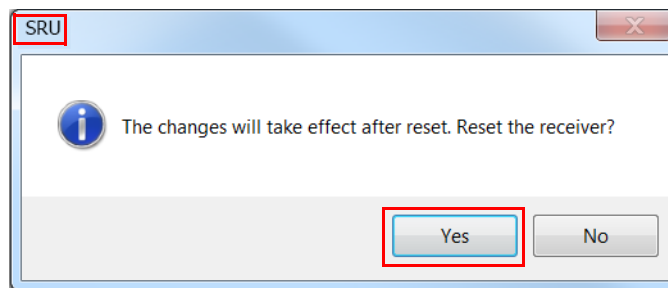

Figure 5-9: Reset Receiver
- Click **Yes** at the prompt to reset the receiver (Figure 5-9). The **Connection Parameters** screen appears.